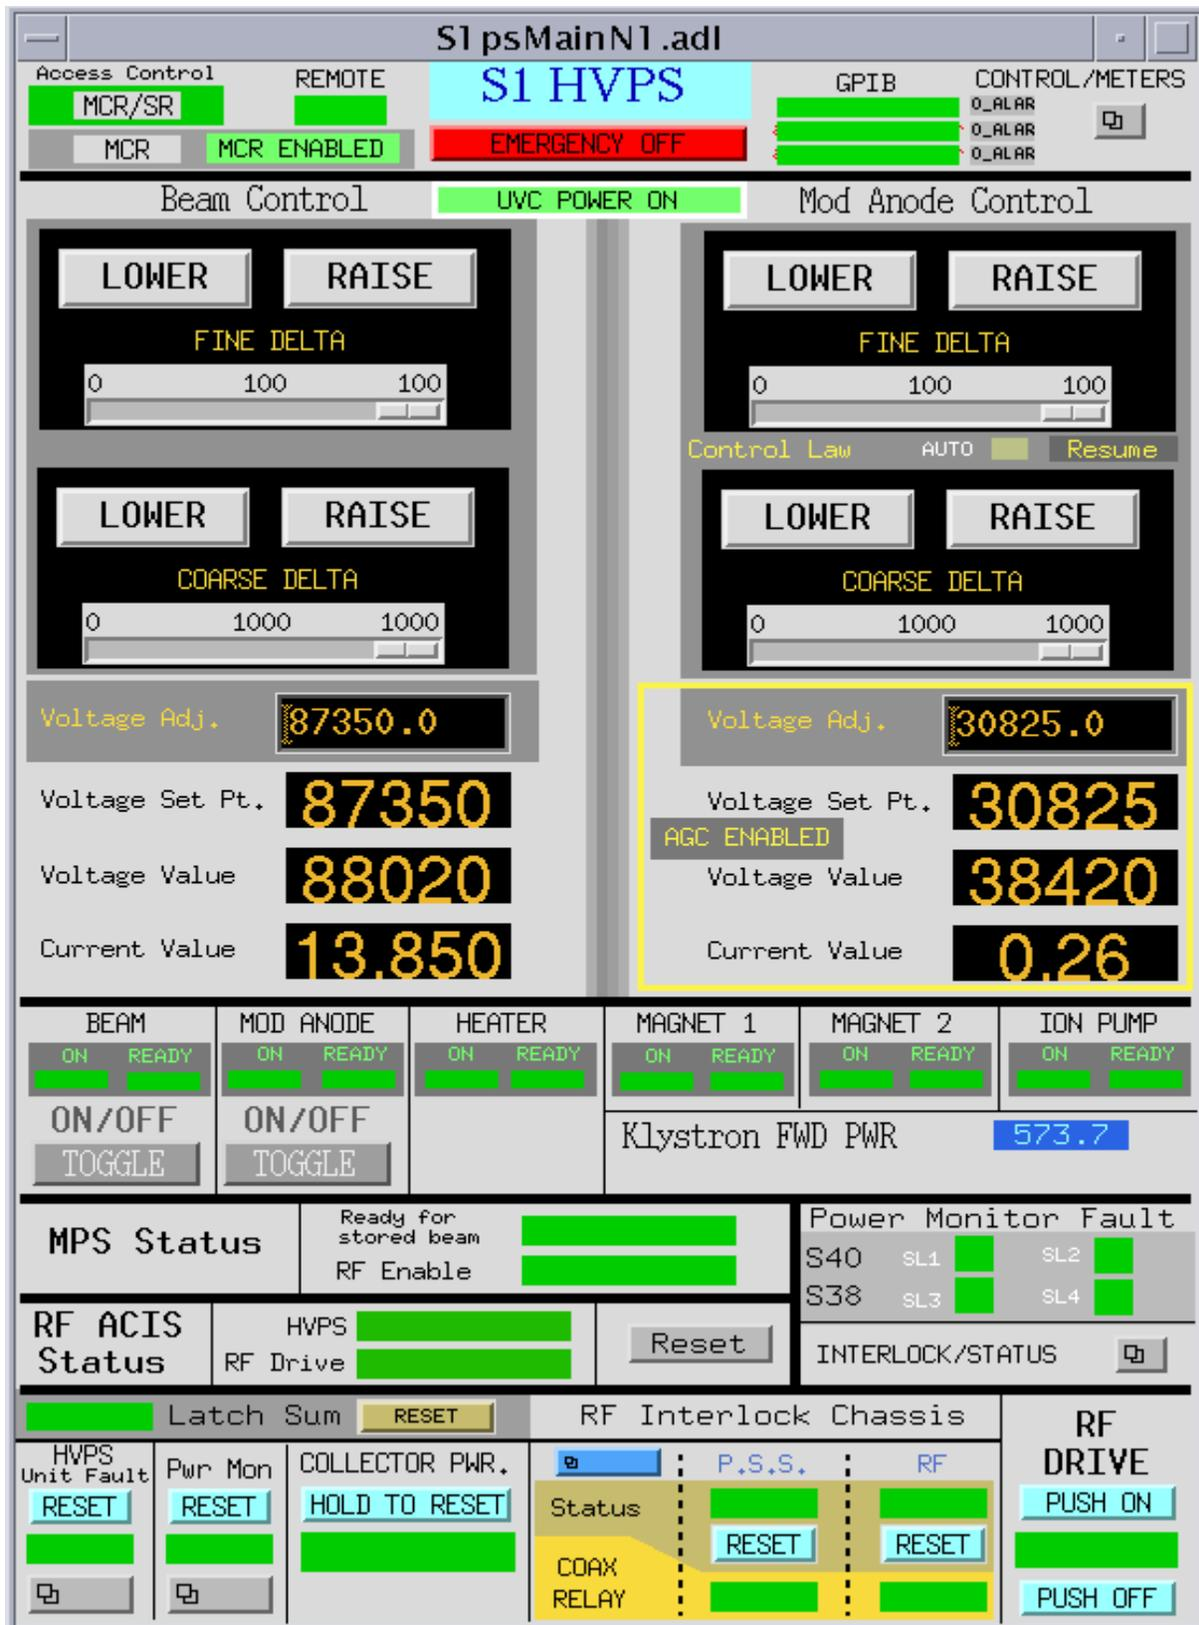

Figure 2: RF1 Station
3. Manually adjust the rf stations providing power to the S36/S37 and S38/S40 sector-pairs for approx. 25kW per cavity (see Figures 2 and 3). The preferred mod-anode voltage setpoints for each rf station under these conditions are shown below: